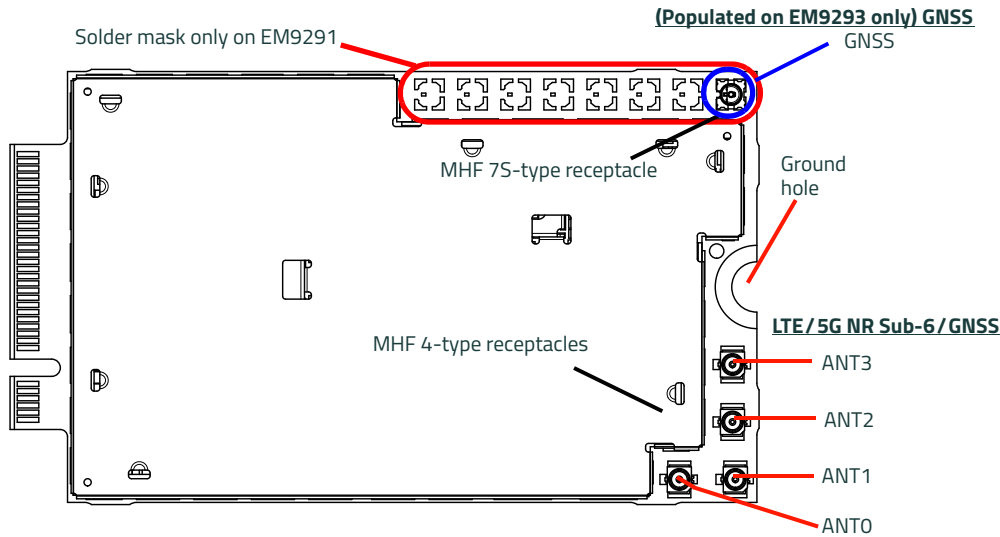

Figure 3-1: EM92XX Module RF Receptacles
- Connect to system ground using the ground hole shown in Figure 3-1 on page 39.